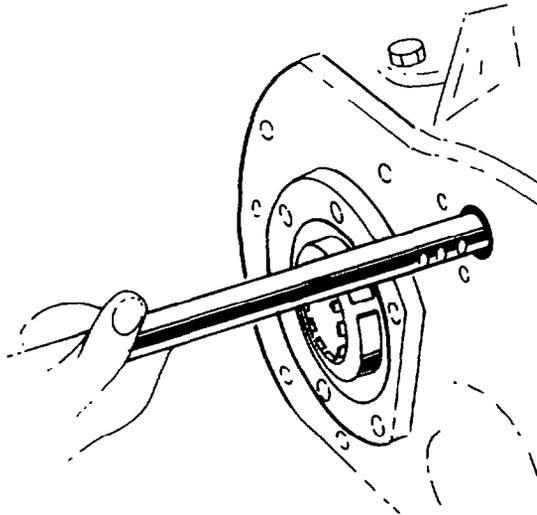

Fig. 248 — Installing Selector Shaft
- j. Turn the transfer case to the horizontal position. Start the selector shaft in the hole provided in the front of the case. Advance the shaft through the hub of the fork, then install the fork locating screws and torque to 47 – 61 Nm (35 – 45 lb.ft) (see fig. 248).